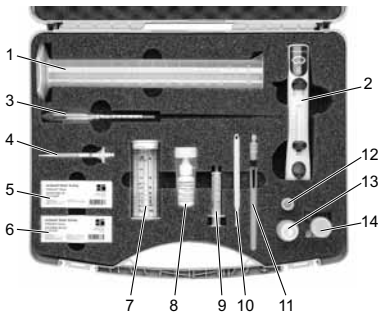

Fig. 1 Test kit content
1. Hold the HandyStep S titrator (fig. 1, Pos. 2) vertically (titrating position). Push the locking/filling lever (fig. 2, Pos. 4) to its lower stop (A).
2. Push the locking/filling lever down gently until it inclines (B).
3. Insert the top of the dispenser tip (fig. 1, Pos. 4) into the titrator. Pull the locking/filling lever back into its starting position (C).
1. Open the bottle with 2N sodium thiosulphate solution (titrant) (Fig. 1, Pos. 13).
2. Fill a small amount (approx. 2 ml) into the neutral tube (Fig. 1, Pos. 12) to prevent contamination of the solution.
3. Dip the end of the dispenser tip (Fig. 1, Pos. 4) into the titrant in the neutral tube.
2. Fill 20 ml of softened water into the test jar (Fig. 1, Pos. 14).
3. Add 2 Chlorine HR tablets (Fig. 1, Pos. 6) and pound them with the stirring rod.
4. Add 2 Acidifying GP tablets (Fig. 1, Pos. 5) and pound them with the stirring rod.
6. Fill the 6 ml syringe (Fig. 1, Pos. 9) with 5 ml of NaClO solution sample.
8. Hold the HandyStep S titrator (Fig. 1, Pos. 2) in one hand and the test jar in the other hand. Insert the dispenser tip (Fig. 1, Pos. 4) into the test jar so that its end is submerged in the sample.